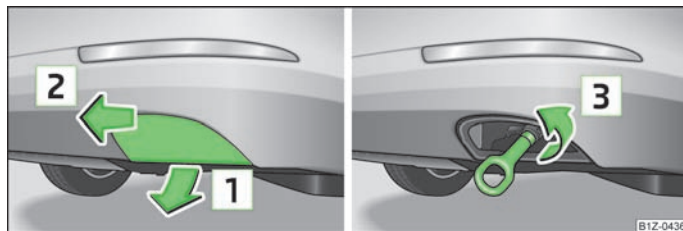

Fig. 160 Rear bumper: removing the cap/rear bumper: Installing the towing eye
- Unlock the bottom part of the cap by pulling it downwards in direction of arrow **1** » Fig. 160.